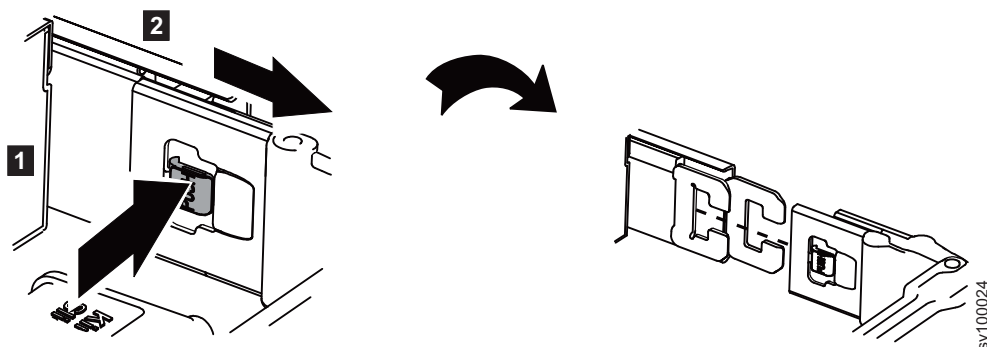

Figure 6. Releasing the inner member of the cable-management arm
5. Release the inner member, as shown in Figure 6.